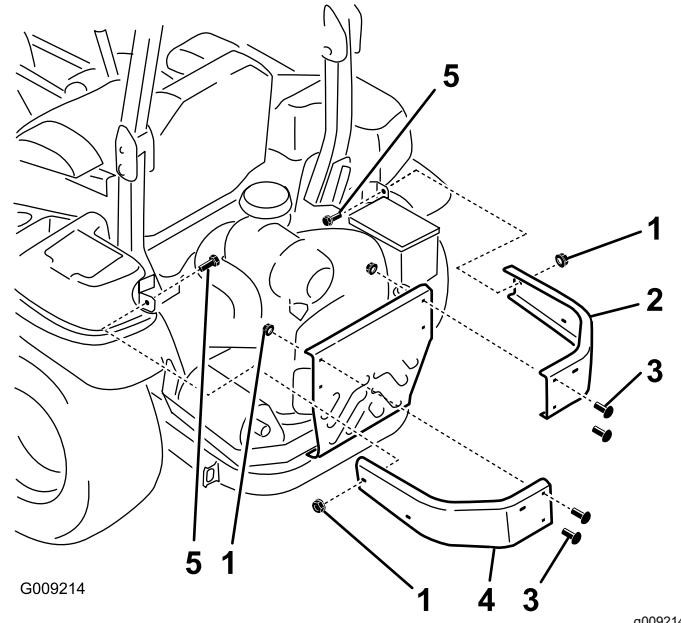

Figure 5
1. Remove the nuts and bolts holding the side bumpers to the machine (Figure 5).
2. Install the new left and right bumpers with 2 carriage bolts (3/8 x 1-1/4 inches), 4 previously removed carriage bolts, and 6 flange nuts (3/8 inch) as shown in Figure 5.